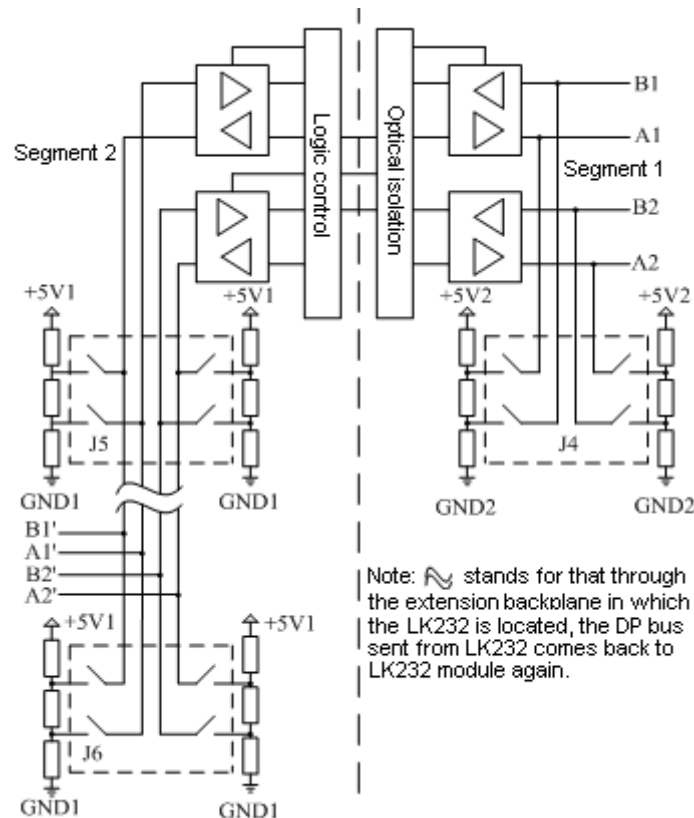

Figure 4.7: Bus Interconnection when LK232 is installed on the expansion backplane
- When the transmission distance is too long, or the load is too high, the quality of the signals being transmitted on the twisted cables will degrade. An LK232 module selects one of the two redundant DP signal channels that works normally and outputs two channels of DP signals after regulations and amplification, as shown in Figure 4.7.